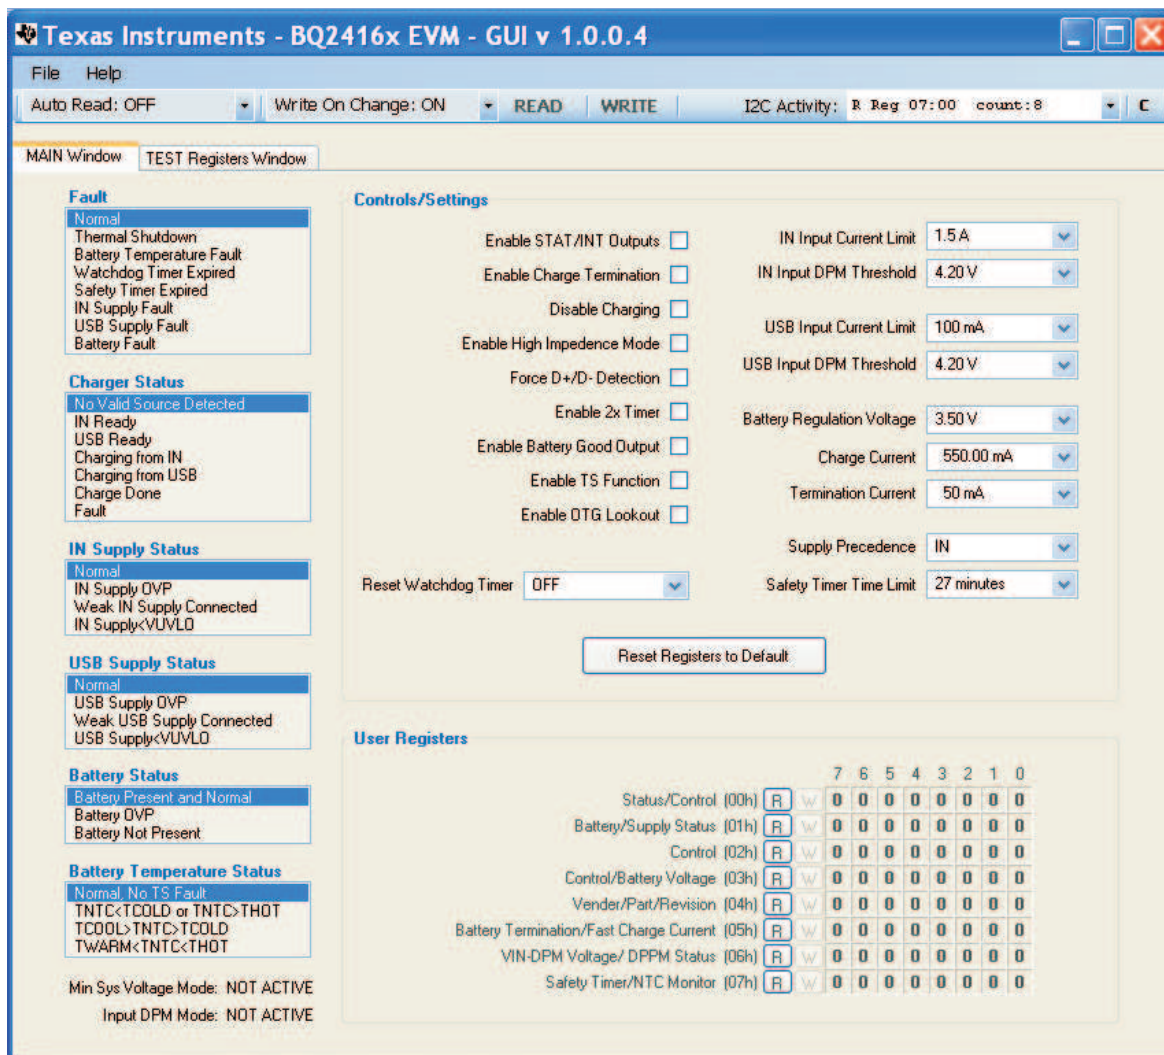

Figure 5. Main Window of bq2416xSW Evaluation Software
- Turn on the computer. Open the bq2416x evaluation software. The main window of the software is shown in Figure 5